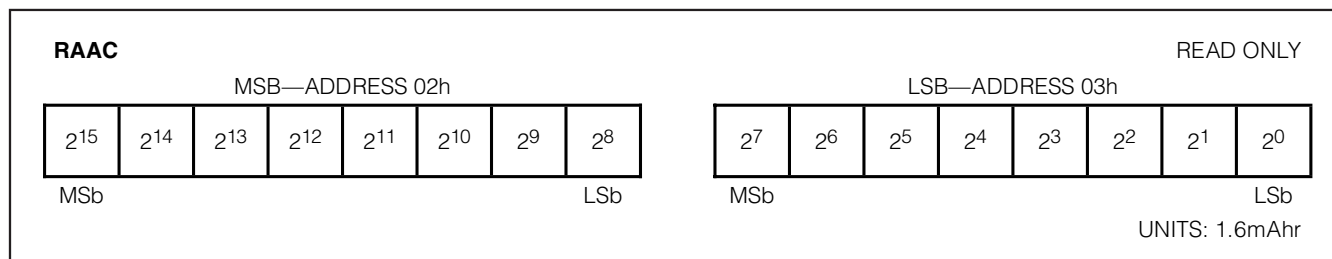

Figure 14. Remaining Active Absolute Capacity Register Format
**FULL(T):** The full capacity of the battery at the present temperature is reported normalized to the +50°C full value. This 15-bit value reflects the cell model full value at the given temperature. FULL(T) reports values between 100% and 50% with a resolution of 61ppm (precisely  $2^{-14}$ ). Though the register format permits values greater than 100%, the register value is clamped to a maximum value of 100%.
**Active Empty, AE(T):** The active empty capacity of the battery at the present temperature is reported normalized to the +50°C full value. This 13-bit value reflects the cell model active empty at the given temperature. AE(T) reports values between 0% and 49.8% with a resolution of 61ppm (precisely  $2^{-14}$ ).
**Standby Empty, SE(T):** The standby empty capacity of the battery at the present temperature is reported normalized to the +50°C full value. This 13-bit value reflects the cell model standby empty value at the current temperature. SE(T) reports values between 0% and 49.8% with a resolution of 61ppm (precisely  $2^{-14}$ ).
**Remaining Active Absolute Capacity, RAAC [mAh]:** RAAC reports the capacity available under the current temperature conditions at the active empty discharge rate (IAE) to the active empty point in absolute units of milliamp/hours (mAh). RAAC is 16 bits. See Figure 14.